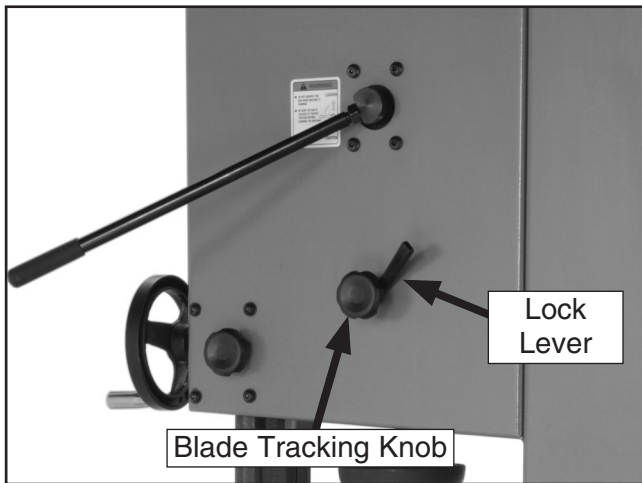

Figure 14. Blade tracking controls.
- Loosen the lock lever (**Figure 14**) so that the blade tracking knob can rotate.